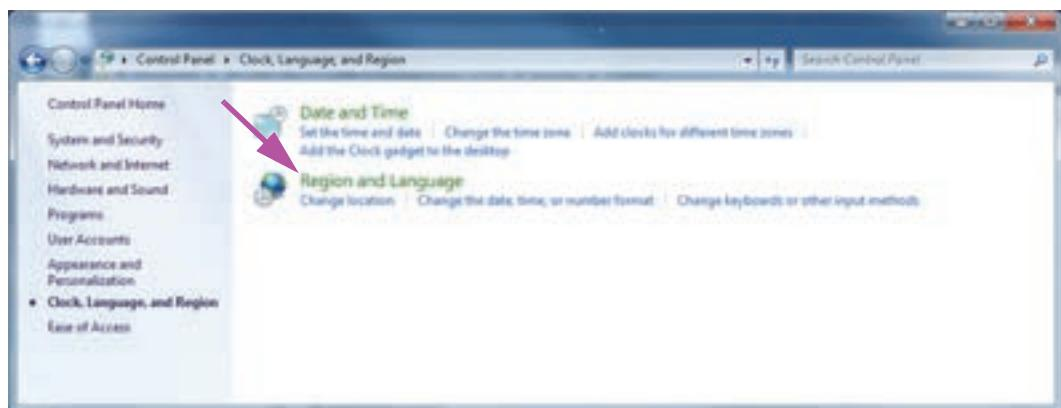

Figure C-2. Clock, Language, and Region Window
4. The Clock, Language, and Region window appears (see Figure C-2). Click **Region and Language**.